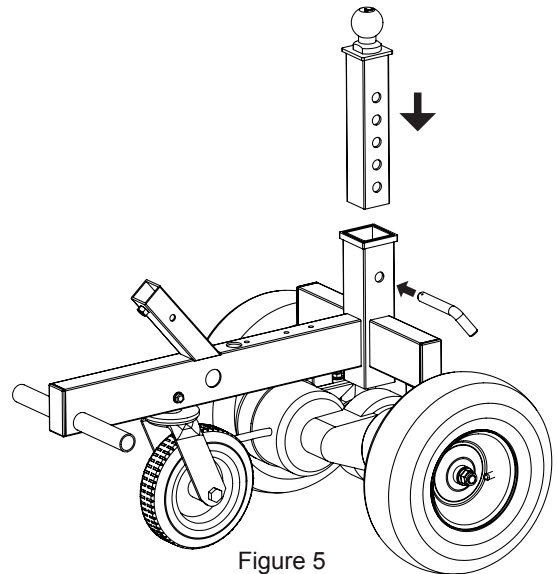

Figure 5
5. Assemble the adjustable hitch ball mount: Adjust the ball mount with the required height, fix by the latch and locked with pin. (See Figure 5)